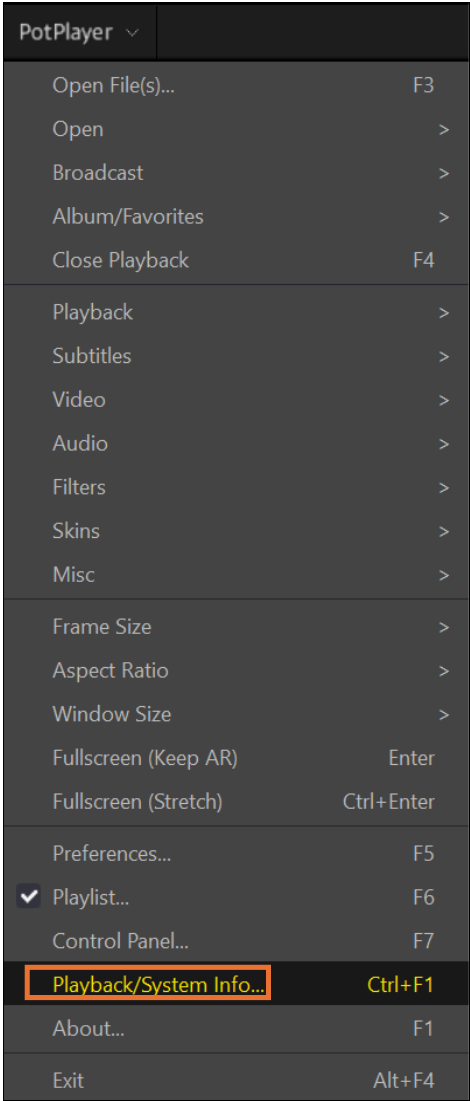
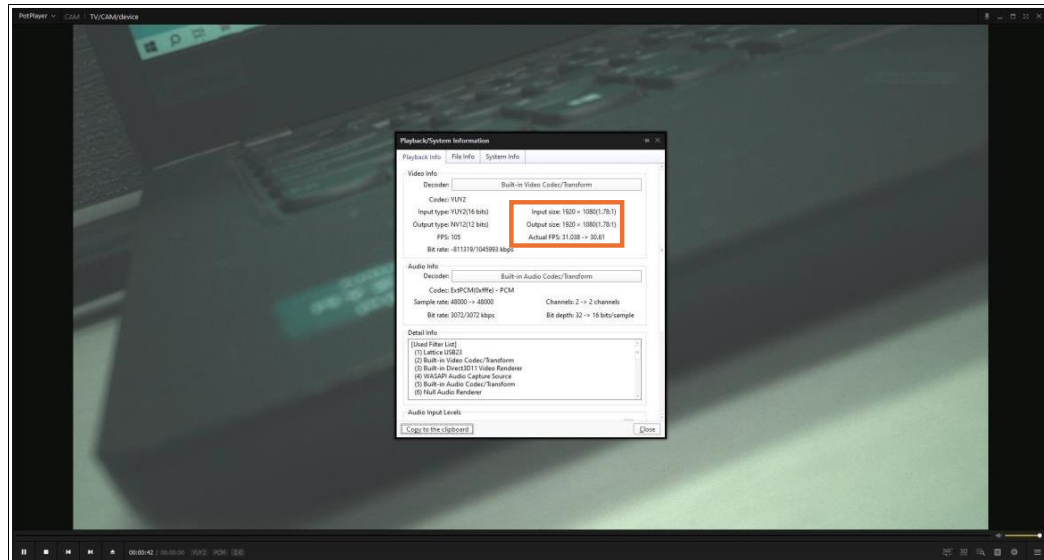

Figure 6.12. Playback/System Information
Figure 6.13. Example of Video Information
- To view the frame per second (FPS), either hit the shortcut Ctrl + F1 or click **PotPlayer > Playback/System Info ...**, as shown in Figure 6.12. An example of the video information is shown in Figure 6.13.